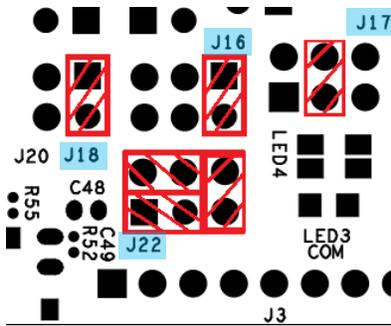

Figure 9: Jumper settings for Bypass mode.
- A secondary 32.768 kHz crystal Y2 is provided (see Figure 9)